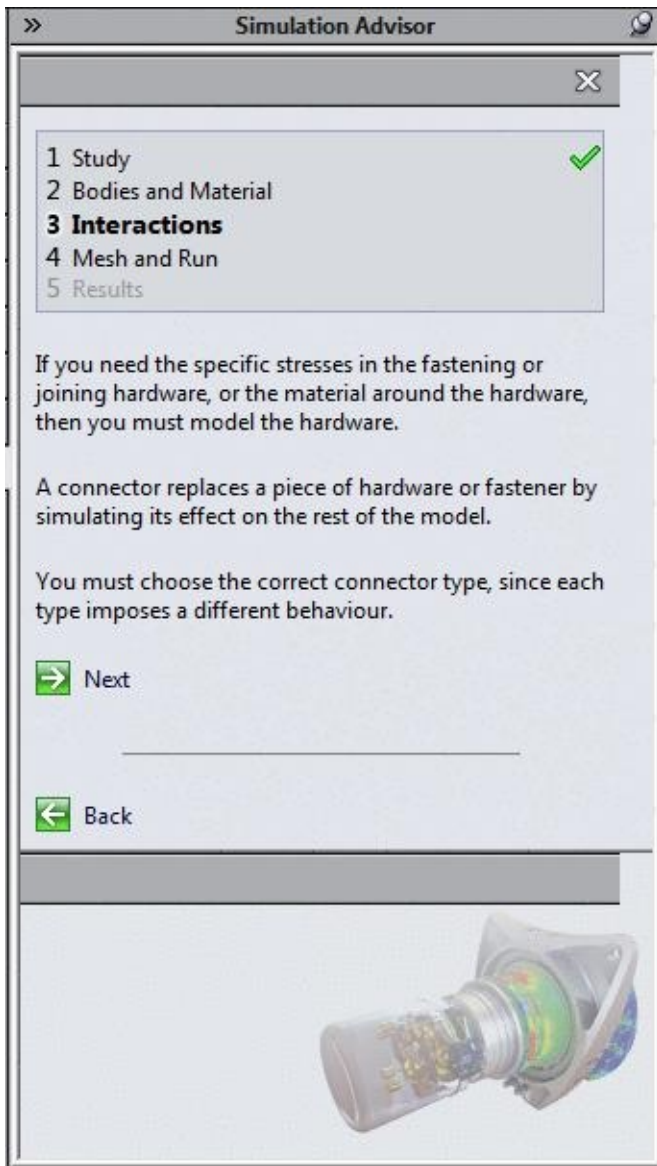

Figure-59. Simulation Advisor with options for connections
- Click on the **Connections Advisor** button from the **Connections Advisor** drop-down in the **Ribbon**. The **Simulation Advisor** will be displayed with the options to apply connections; refer to Figure-59.